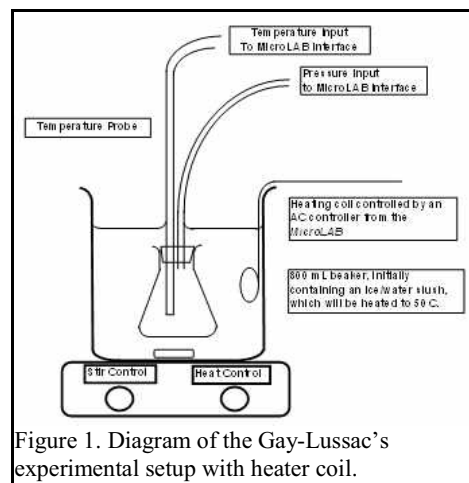

Figure 1. Diagram of the Gay-Lussac's experimental setup with heater coil.
- c. Tightly insert the rubber stopper into the flask. Suspend the flask and your temperature probe into the beaker so that the flask is **completely immersed** in the hot water to a depth of at least 2 cm, **but also** so that the bottom of the flask does not interfere with the stir bar spinning. Support the flask by hanging the Tygon tubing over the utility clamp supporting the temperature probe. See Figure 1.